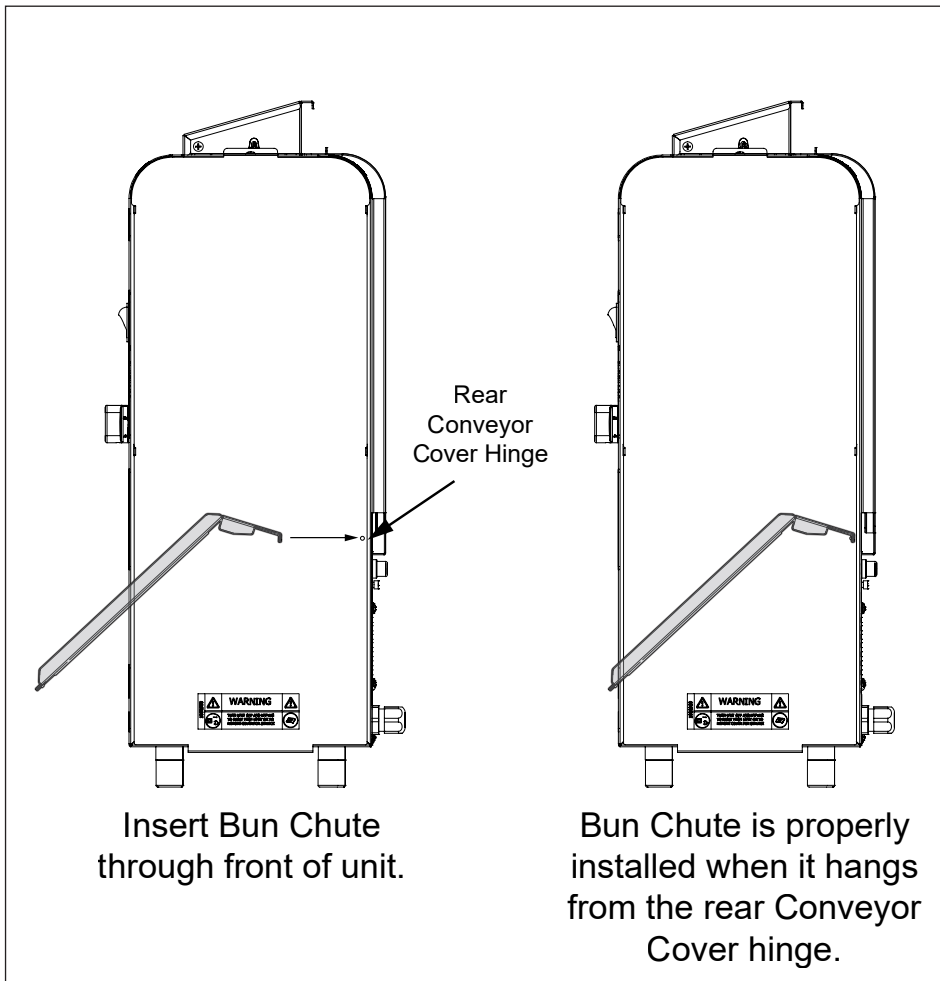

Figure 1. Bun Chute Installation
2. Insert the Bun Chute through the front of the unit according to Figure 1.
3. Hang the back of the Bun Chute on the rear Conveyor Cover hinge. When properly installed, the Bun Chute supports will be flush against the front of the unit (Figure 1).